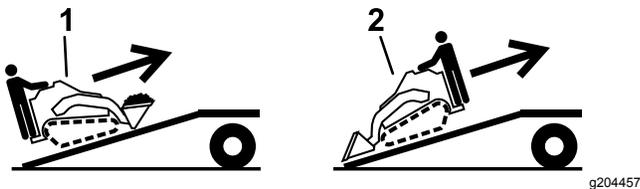

Figure 34
5. Load the machine onto the trailer with the heavy end up the ramp, carrying loads low (Figure 34).